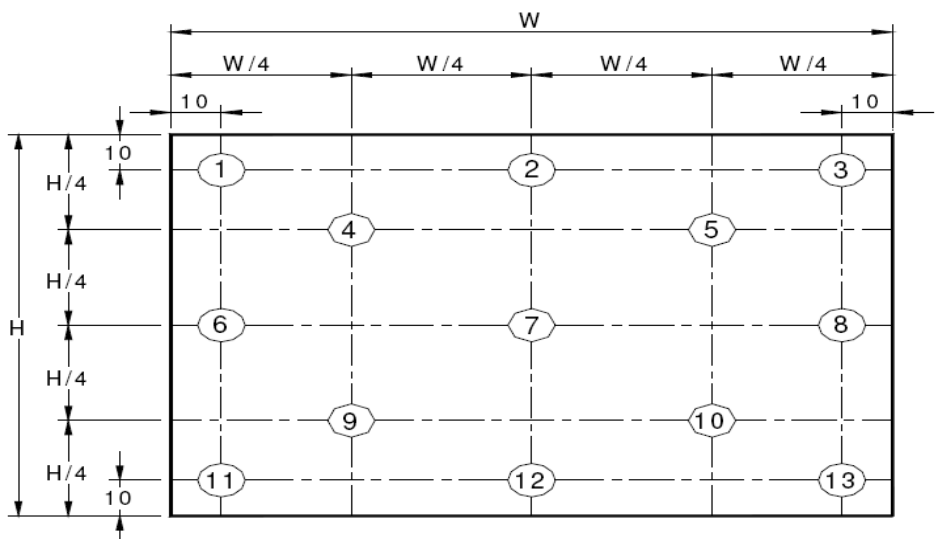

Figure 9. Uniformity Measurement Locations (13 points)
<p>Notes :</p> <ol style="list-style-type: none"> Viewing angle is the angle at which the contrast ratio is greater than 10. The viewing angles are determined for the horizontal or 3, 9 o'clock direction and the vertical or 6, 12 o'clock direction with respect to the optical axis which is normal to the LCD surface (see Figure 7). Contrast measurements shall be made at viewing angle of $\Theta = 0$ and at the center of the LCD surface. Luminance shall be measured with all pixels in the view field set first to white, then to the dark (black) state . (see Figure 7) Luminance Contrast Ratio (CR) is defined mathematically. <div data-bbox="285 666 1071 763" data-label="Equation-Block"> $CR = \frac{\text{Luminance when displaying a white raster}}{\text{Luminance when displaying a black raster}}$ </div> Center Luminance of white is defined as luminance values of 5 point average across the LCD surface. Luminance shall be measured with all pixels in the view field set first to white. This measurement shall be taken at the locations shown in Figure 8 for a total of the measurements per display. The White luminance uniformity on LCD surface is then expressed as : $\Delta Y = \text{Minimum Luminance of 5(or 13) points} / \text{Maximum Luminance of 5(or 13) points.}$(see Figure 8 and Figure 9). The color chromaticity coordinates specified in Table 5 shall be calculated from the spectral data measured with all pixels first in red, green, blue and white. Measurements shall be made at the center of the panel. The electro-optical response time measurements shall be made as Figure 10 by switching the “data” input signal ON and OFF. The times needed for the luminance to change from 10% to 90% is T_r, and 90% to 10% is T_r. Cross-Talk of one area of the LCD surface by another shall be measured by comparing the luminance (YA) of a $10 \pm 1\text{mm}$ diameter area, with all display pixels set to gray 127(of 0 to 255), to the luminance (YB) of that same area when any adjacent area is driven dark.The luminance ratio shall not exceed 1:1.05 (See Figure 11).
The White luminance uniformity on LCD surface is then expressed as : $\Delta Y5$ = Minimum Luminance of five points / Maximum Luminance of five points (see Figure 8) , $\Delta Y13$ = Minimum Luminance of 13 points /Maximum Luminance of 13 points (see Figure 9).